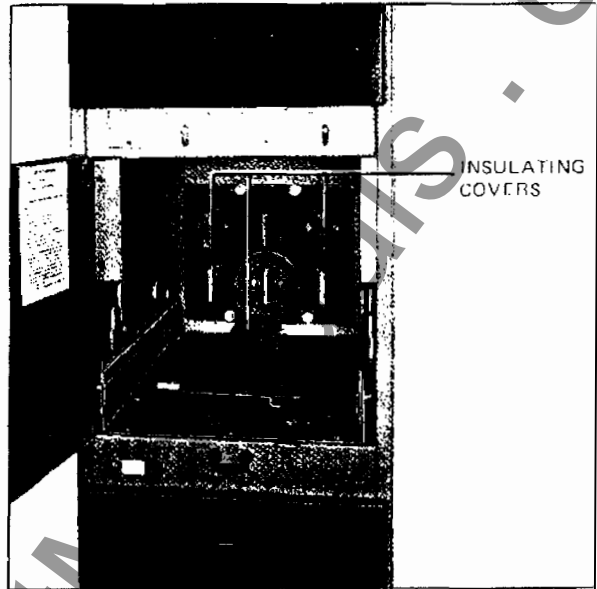

Fig. 18 *Insulating Covers for Main Stationary Disconnecting Contacts (384829)*
Other small devices, such as key interlocks control pushbuttons, indicating lights and test switches, can be mounted on these panels within their space limits. See Fig. 18.
1.2.2 Insulating covers or "boots" are furnished on live main stationary disconnecting contacts in compartments equipped for future breakers. One additional set is provided for each size breaker furnished. See Fig. 18.